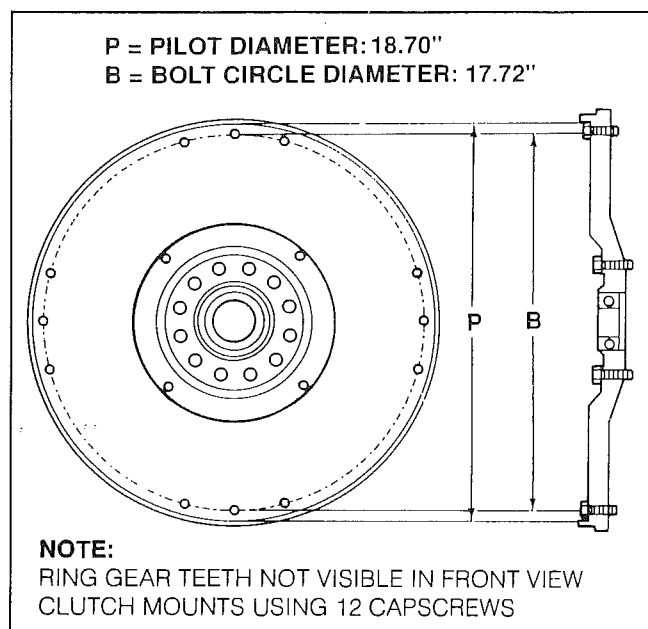

Figure 4-9. Measuring Points on Flywheel for 17-inch Clutch (Flat Type)
- Measure bolt circle and pilot diameter (Fig. 4-9).